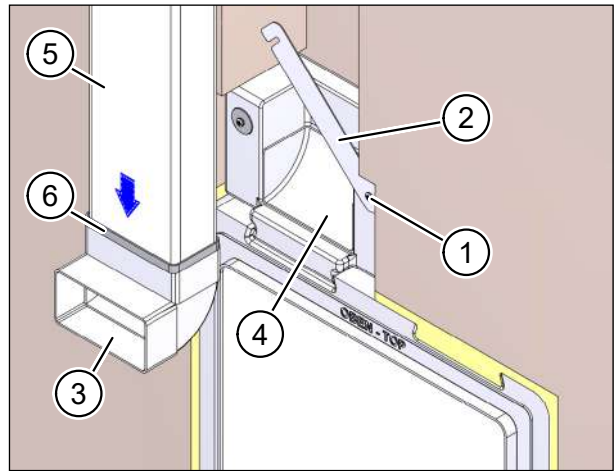

Fig. 26: Inserting flat ductwork into ductwork connection adapter
- ▶ Loosen the two cross-head screws (item 1 in Fig. 26) and lift up the bar catch (item 2 in Fig. 26).
- ▶ Remove the flat ductwork bend (item 3 in Fig. 26) from the ductwork connection adapter (item 4 in Fig. 26).
- ▶ Insert a flat duct M-WRG-FK-F (item 5 in Fig. 26), part no. 5590, or the fitting adapter M-WRG-FSA lang, part no. 5375-00, into the flat ductwork bend.
- ▶ Seal the join with a layer of sealing tape 30 mm wide (item 6 in Fig. 26).
- ▶ Push the flat ductwork bend (item 3 in Fig. 26) together with the attached flat ductwork element (item 5 in Fig. 26) back into the ductwork connection adapter (item 4 in Fig. 26).
- ▶ Push the bar catch (item 2 in Fig. 26) down and carefully tighten the cross-head screws (item 1 in Fig. 26).